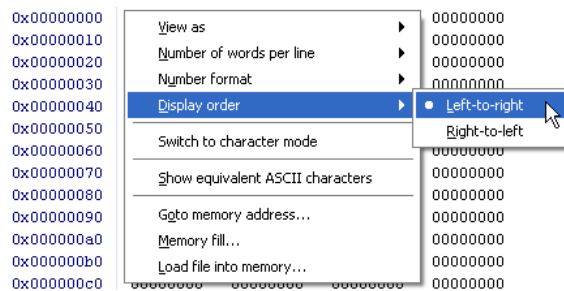

Figure 33. **Display order** menu in the **Memory** window.
- Display order: the display can display addresses increasing from left-to-right or right-to-left. Configure this option by right-clicking on the **Memory** window, as shown in Figure 33.